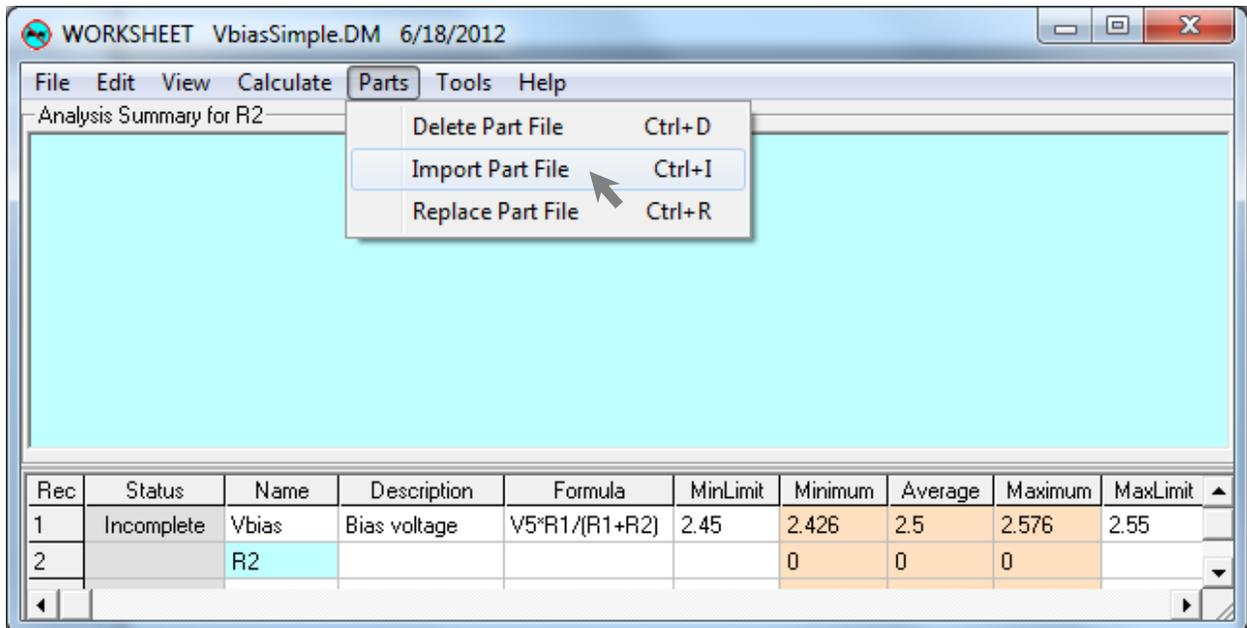

Fig. 10. Selecting Import Part File.
- b. Select Parts/Import Part File from the worksheet menu (Fig. 10.)